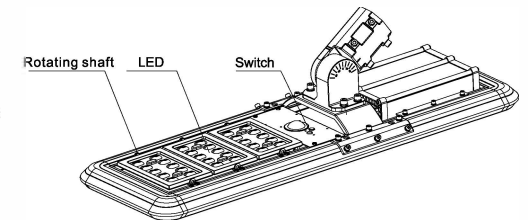

Figure 6
6. Adjust the lighting direction of LED as per your requirement. (Figure 6)
7. Press and hold the switch until the indicator lights up, then continue to press and switch to the desired working mode. (Figure 6)